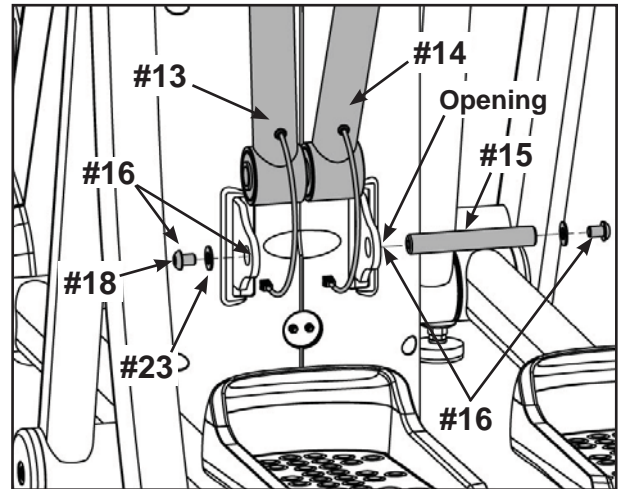

Figure 8
- C. Position right handle (#14) to align opening with mainframe opening. See Figure 8.
- D. Insert pivot shaft (#15) into opening of right handle (#14). See figure 8.